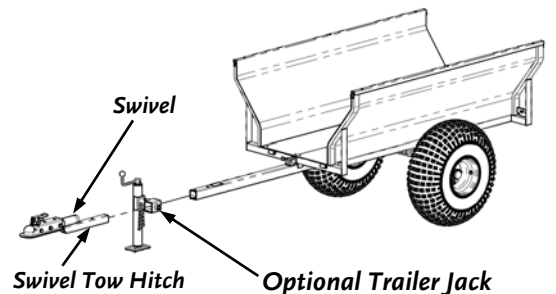

Figure 15
- 13. Position a Jack Stand under the Tow Bar and slide the Swivel Tow Hitch w/Coupler into the end of the Tow Beam (**Figure 15**) with the Swivel facing up.